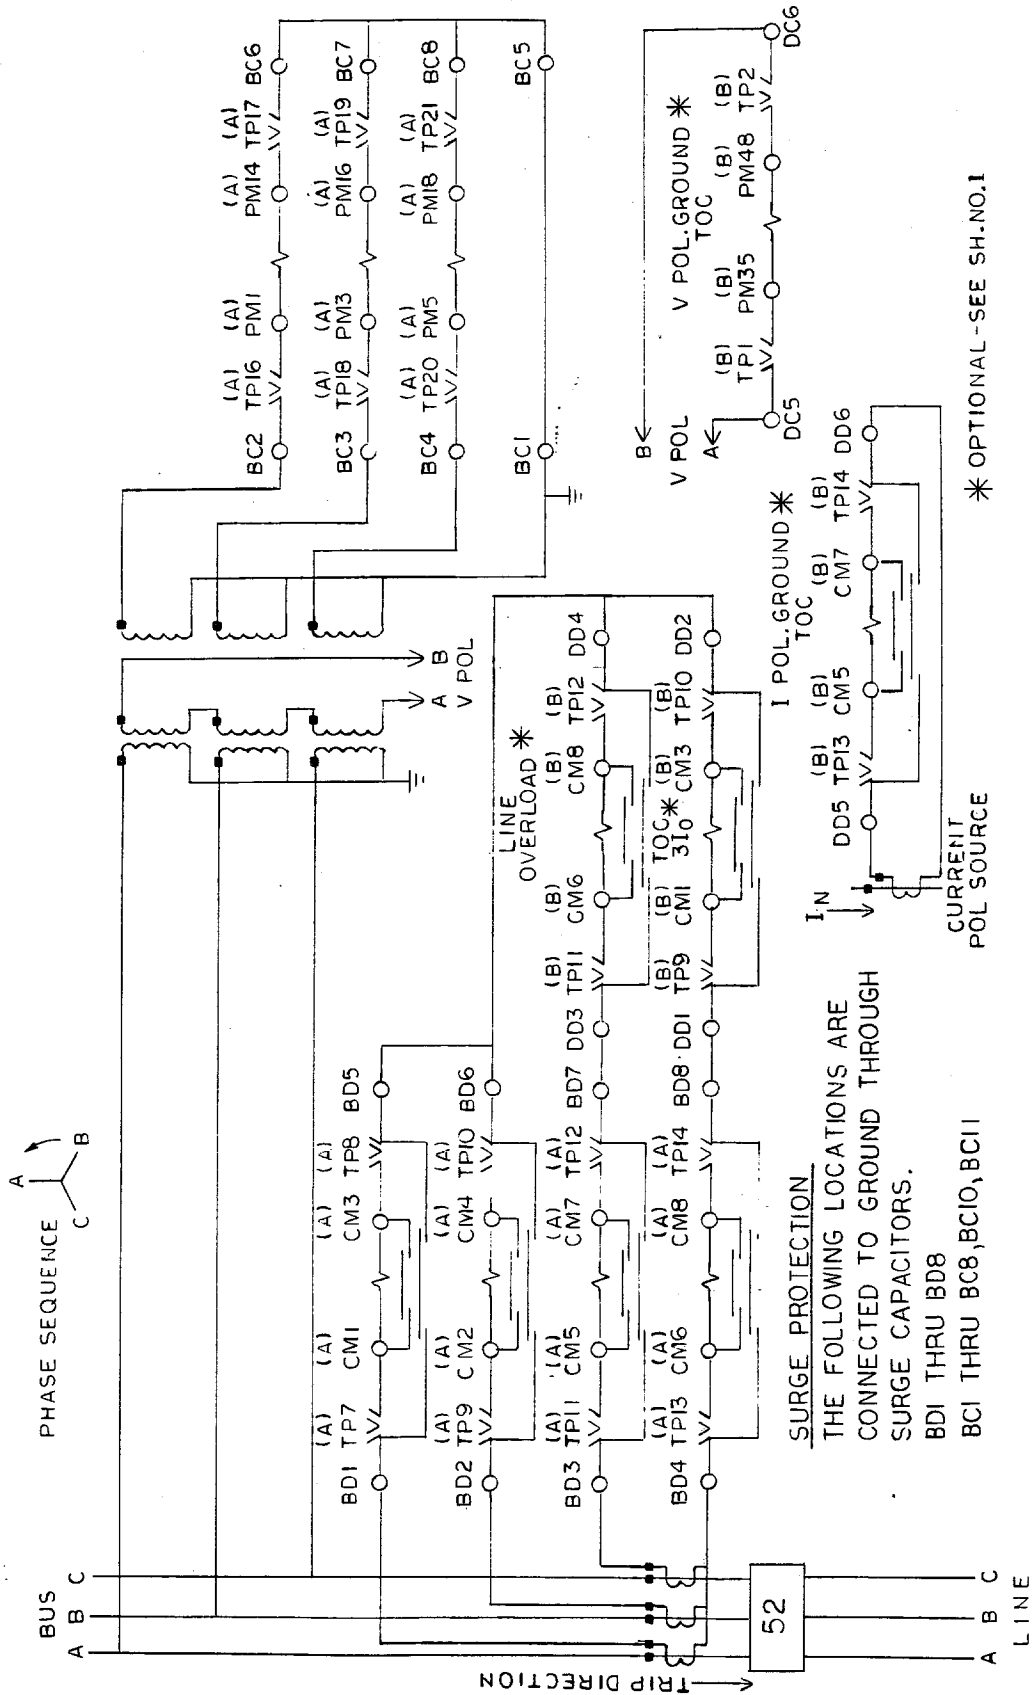

Fig. 3B (0138B7775, Sh. 2, Rev. 5) Elementary Diagram - AC Connections
- Fig. 3B (0138B7775, Sh. 2, Rev. 5) Elementary Diagram - AC Connections